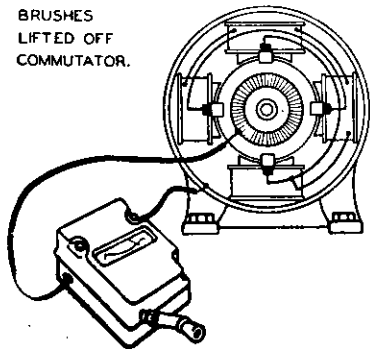

Figure 9
3. On the armature only, between the commutator and frame, the brushes being lifted (Figure 9).